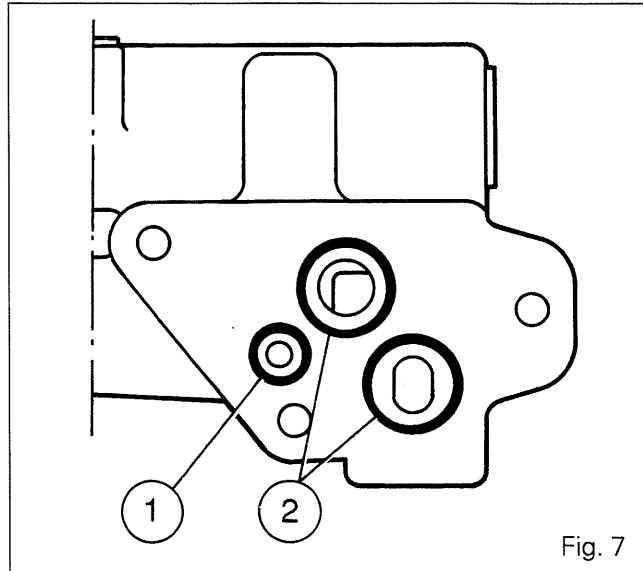

Fig. 7
4. Replace the O-rings (1) and (2) (Fig. 7).